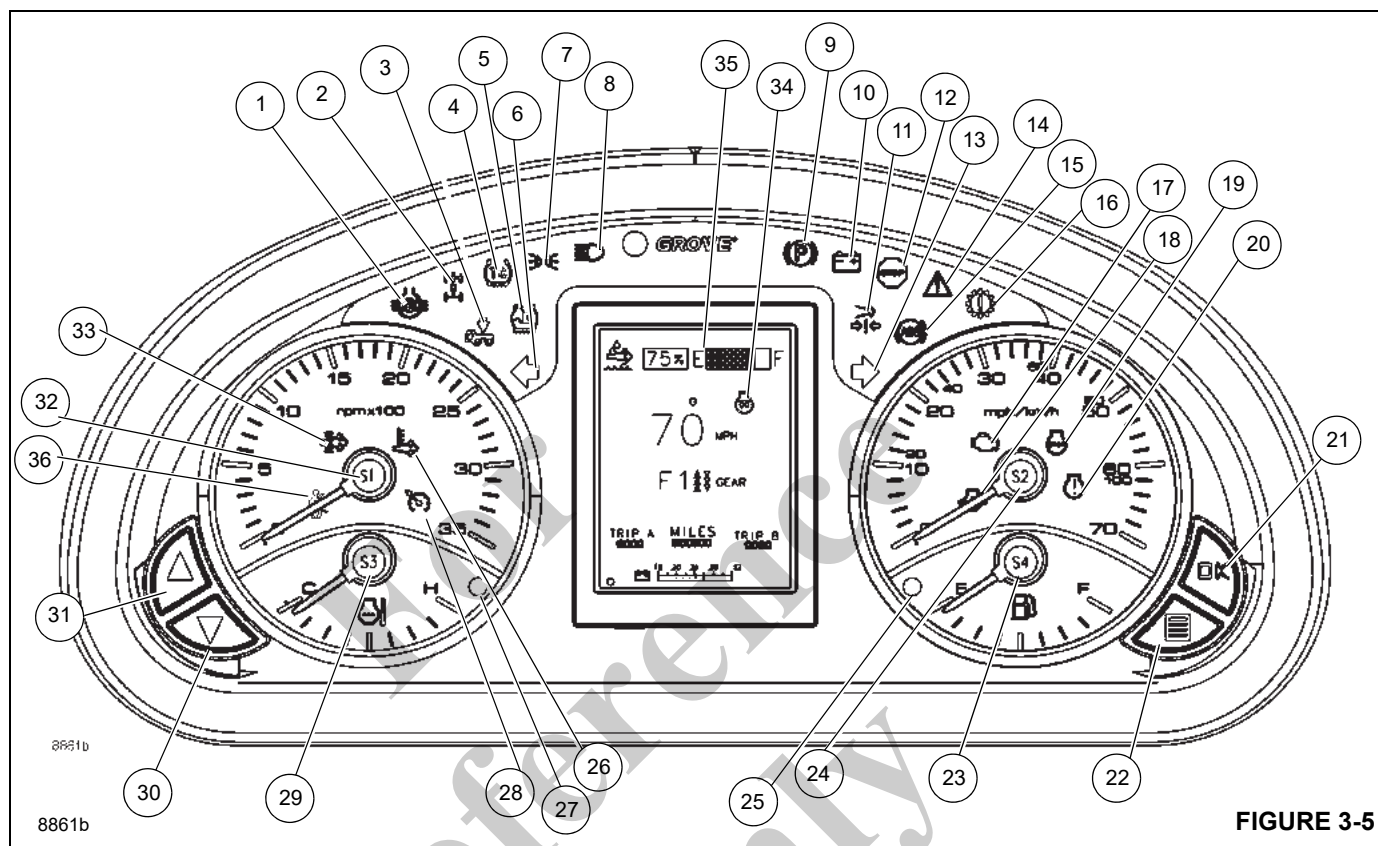

FIGURE 3-5
(Figure 3-5) Item Numbers
The Cross-Axle Lock Indicator (1), (Figure 3-5) is located at the left side of the gauge cluster. The amber indicator illuminates to show that the differential is locked.
The Inter-Axle Lock Indicator (2), (Figure 3-5) is located at the left side of the gauge cluster. The amber indicator illuminates to show that the inter-axle is locked.
The Suspension Deflated Indicator (3), (Figure 3-5) is located on the left side of the gauge cluster. The amber indicator illuminates when the air is removed from the suspension air bags.
The ABS Traction Control Indicator (4), (Figure 3-5) is the primary indicator of the traction control status.
The Tire Inflation Indicator (5), (Figure 3-5) is located on the left side of the gauge cluster. The indicator illuminates amber when the tire inflation system is activated. In addition to illuminating the indicator, a warning buzzer will sound.
The Left Turn Signal Indicator (6), (Figure 3-5) is located on the left side of the gauge cluster. The green indicator flashes when the turn signal lever or hazard switch is activated.
The Marker Lights ON Indicator (7), (Figure 3-5) is located on the left side of the gauge cluster. The green indicator illuminates when the headlights or marker lights are on.
The Headlight High Beam Indicator (8), (Figure 3-5) is located at the top left center of the gauge cluster. The blue indicator illuminates when the headlights are on high beam.
The Parking Brake Engaged Indicator (9), (Figure 3-5) is located at the top right of the gauge cluster. The red indicator illuminates when the crane parking brakes are applied.
The Battery Charge Indicator (10), (Figure 3-5) is located at the top right center of the gauge cluster. The red indicator will illuminate when any of the following conditions are active:
The Low Air Pressure Indicator (11), (Figure 3-5) is located on the right side of the gauge cluster. The red indicator illuminates when the pressure in the air brake circuit falls below normal operating requirements. A warning buzzer will also sound.
The Emergency Stop Indicator (12), (Figure 3-5) is located on the right side of the gauge cluster. The red indicator illuminates when any Emergency Stop Switch is actuated (refer to *Emergency Stop Switch*, page 3-18 or *Emergency Stop Switch*, page 3-21) and a warning buzzer will sound.
The Right Turn Signal Indicator (13), (Figure 3-5) is located on the right side of the gauge cluster. The green indicator light flashes when the turn signal lever or hazard switch is activated.
The Crane Control System (CCS) Fault Indicator (14), (Figure 3-5) is located on the right side of the gauge cluster. The amber indicator illuminates when any crane system fault is active.
The Anti-lock Braking System Indicator (15), (Figure 3-5) is the primary indicator of the ABS system.
The Check Transmission Indicator (16), (Figure 3-5) is located on the right side of the gauge cluster. The red indicator illuminates when commanded by the TCU (transmission control unit) via J1939 serial communications. A warning buzzer may also sound.
The Malfunction Indicator Lamp (MIL) (17), (Figure 3-5) is located in the speedometer. The amber indicator illuminates when there is an emission-related system error. When this indicator illuminates have the crane serviced as soon as possible.
The Low Oil Pressure Indicator (18), (Figure 3-5) is located in the speedometer. The red indicator illuminates as commanded by the Engine Control Module (ECM) via J1939 serial communications.
The Engine Stop Indicator (19), (Figure 3-5) is located in the speedometer. The red indicator illuminates when energized by a signal from the Engine Control Module (ECM) that signifies a serious engine problem that requires the vehicle and the engine to be stopped as soon as safely possible. In addition, a warning buzzer will also sound.
The Engine Warning Indicator (20), (Figure 3-5) is located in the speedometer. The amber indicator illuminates when commanded by a signal from the Engine Control Module (ECM) that signals the operator of an engine problem which must be corrected.
The OK Button (21), (Figure 3-5) is used to accept the current display screen on the LCD.
The Menu Button (22), (Figure 3-5) is used to scroll through the LCD screens.